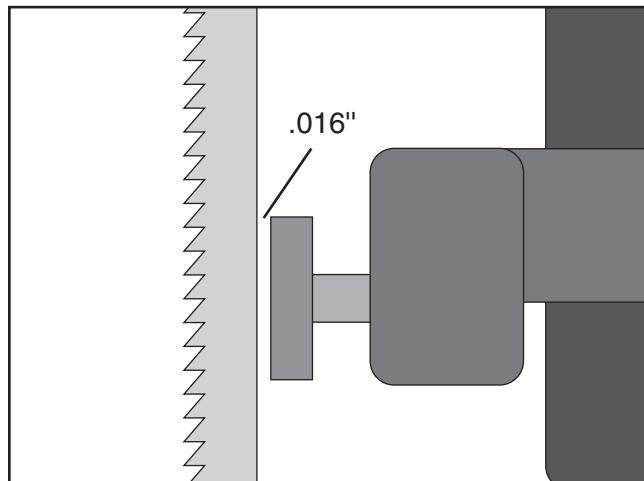

Figure 27. Support bearing spacing.
8. Using the feeler gauge, position the support bearing approximately .016" away from the back of the blade as illustrated in **Figure 27**.